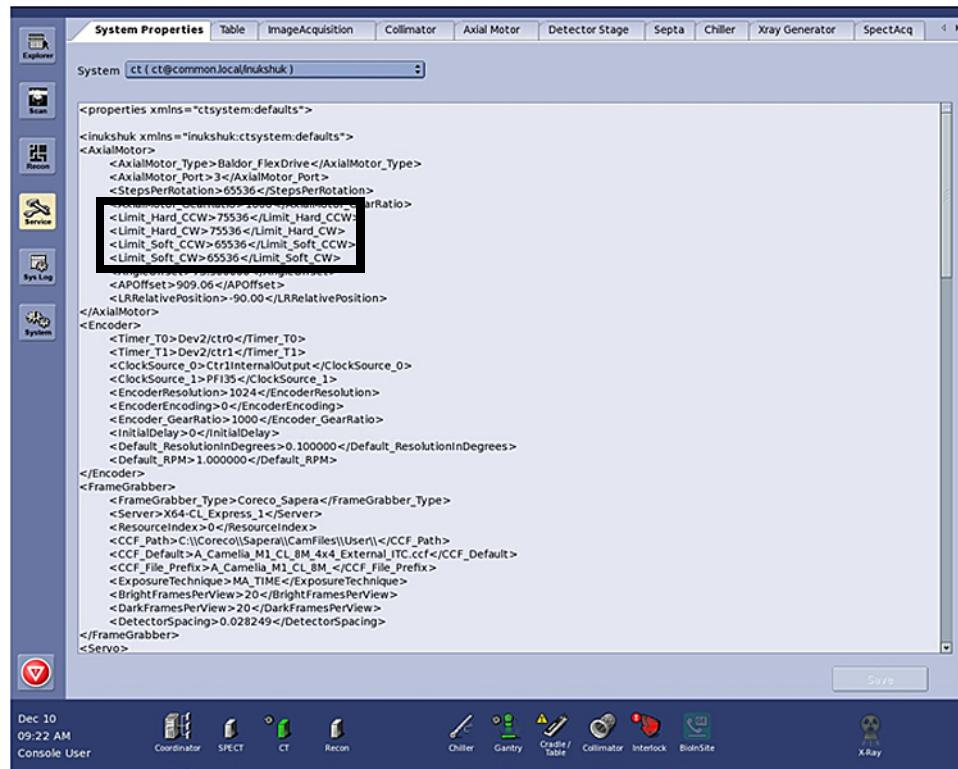

Figure 5-66
27. Go to the Console. Enter Service pages and click the System Properties tab. Edit the Limit_Soft_CCW and Limit_Soft_CW values to match the values entered in the Axial Motor program (box in Figure 5-66). Save the file.